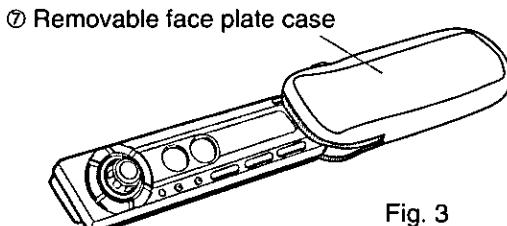

Fig. 3
c) Remove the unit pulling with both hands.(Fig.3)
④ As shown in Fig.3, keep the removable face plate in the case. Then, you can bring the plate safely.